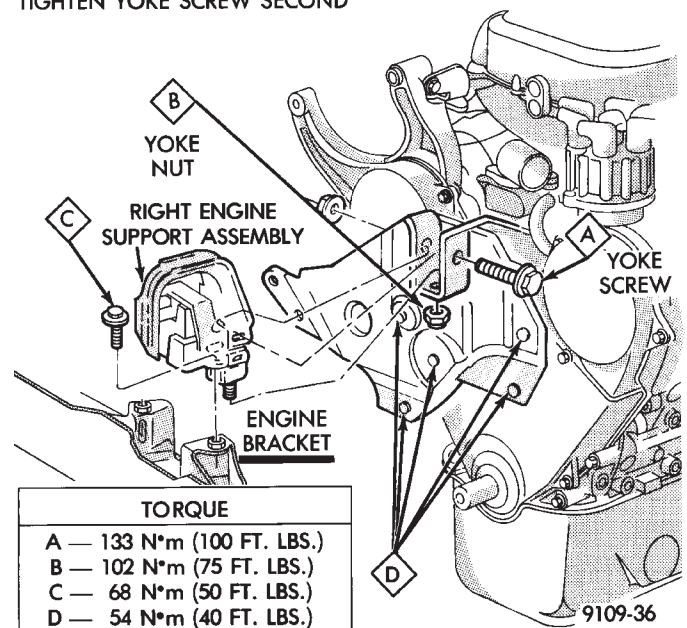

Fig. 10 Right Engine Mount and Engine Mount Bracket
(9) Mark support assembly to engine bracket if assembly is to be used again. Separate engine mount insulator from engine mount bracket (Fig. 10). Raise engine slightly.
(10) Remove engine mount bracket (Fig. 10).